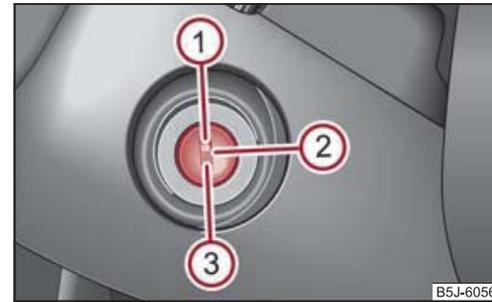

Fig. 95 Ignition lock positions
- The engine can be switched off by turning the ignition key into position ① ⇒ page 86, fig. 95.